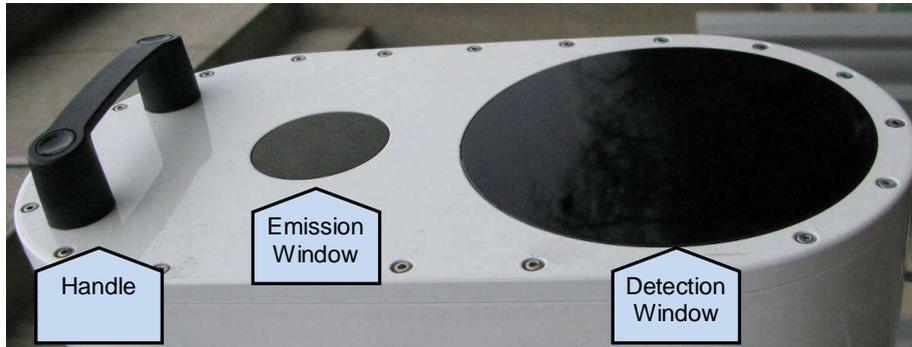

Figure 10: Front View of the Optical Head
- Check that the Q-Switch LED is turned OFF (Fig. 10). If not, press the Q-Switch button to disable the laser emission.